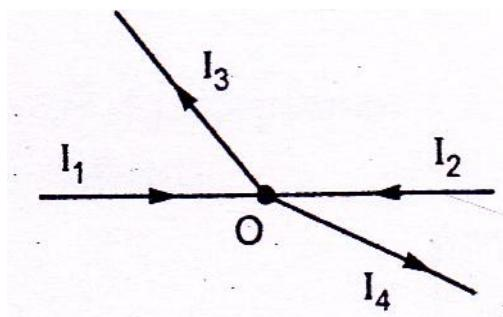

Fig. 1 Junction point
- e.g. Refer to Fig. 1, currents I_1 and I_2 are positive while I_3 and I_4 are negative.